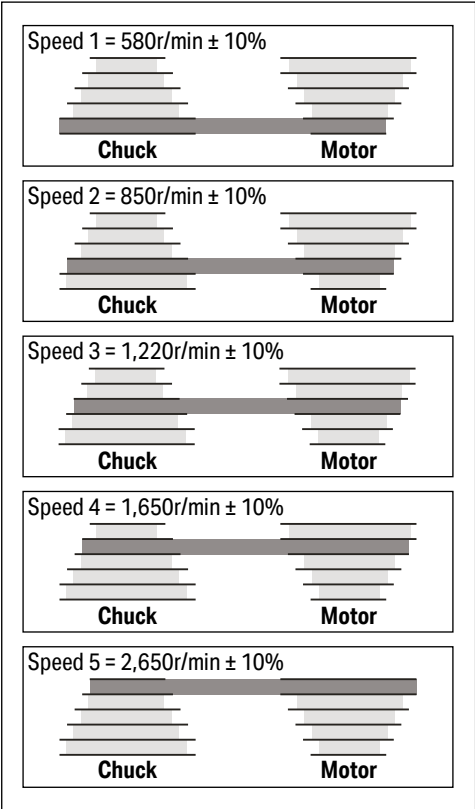
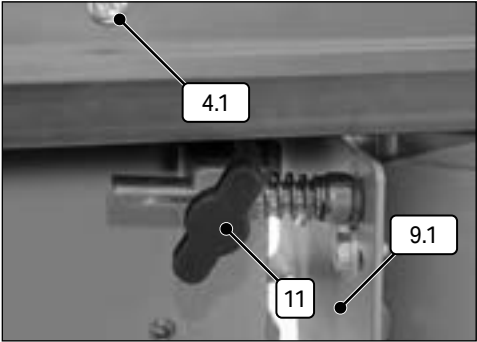

Fig. 7
Fig. 8
7.1 Spindle Speed Adjustment (Fig.7 – Fig.8)